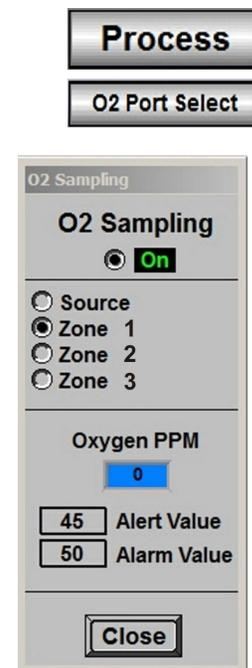

Figure 4-24 O2 Enable
On the Process screen use O2 Sampling popup screen to start analyzer, Figure 4-24. Click on O2 Port Select to open popup. If the analyzer does not start when enabled on the popup screen, check that the power switch in the back of the analyzer is in the up position (ON), Figure 4-27.